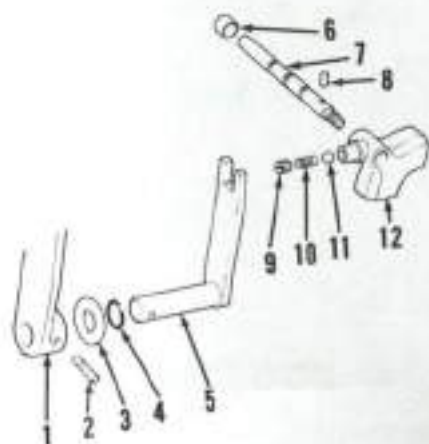

Fig. 230—Exploded view of typical pto shift linkage. Some models use a retainer plate to secure shift rod (7) in place of pin (8).
299. **REASSEMBLY.** Install new "O" ring (4—Fig. 230) in housing shift arm bore. Assemble shift arm (5) and shift lever (1) using shims (3) as necessary to provide 0.13-0.25 mm (0.005-0.010 inch) end play.
To reassemble shift fork (12—Fig. 230), insert a 18 mm (5/8 inch) x 30 mm (1 1/4 inches) dowel into shift rod hole in fork. Assemble detent ball spring and plug in fork and tighten plug until outer end is even with chamfer in shift fork. Install fork on sliding gear, install spacer (6), then push shift rod (7) into fork until it moves dowel out of fork and detent ball engages with shift rod. Install special pin (8) into housing and shift rod making sure end of pin with the hole faces upward.